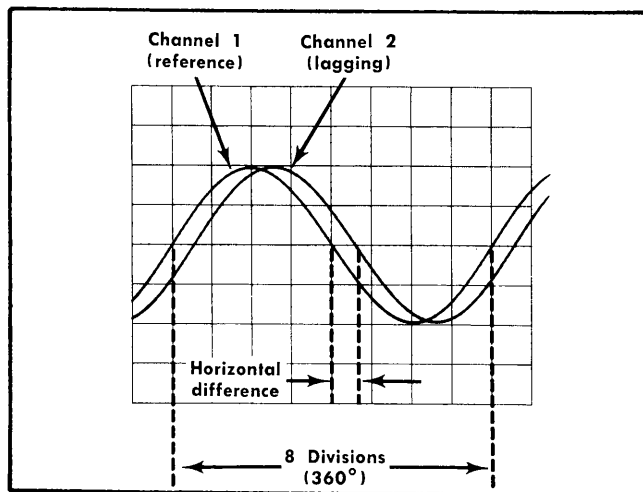
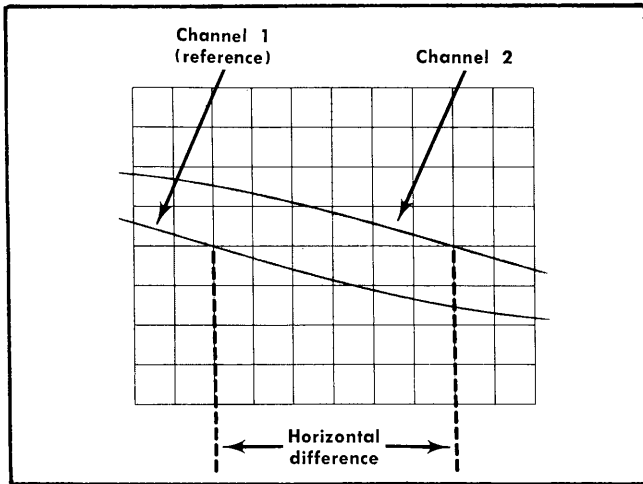

Fig. 2-7. Measuring phase difference.
Fig. 2-8. High-resolution phase-difference measurement with increased sweep rate.
9. Turn the Variable Seconds/Div control until one cycle of the reference signal (Channel 1) occupies exactly eight divisions between the second and tenth vertical lines of the graticule (see Fig. 2-7). Each division of the graticule represents 45° of the cycle (360° ÷ 8 divisions = 45°/division). The sweep rate can be stated in terms of degrees as 45°/division.
EXAMPLE: Assume a horizontal difference of 0.6 division with a sweep rate of 45°/division as shown in Fig. 2-7.
EXAMPLE: If the sweep rate were increased 10 times with the magnifier, the magnified sweep rate would be $45^\circ/\text{division} \div 10 = 4.5^\circ/\text{division}$. Fig. 2-8 shows the same signals as used in Fig. 2-7, but with the SWP MAG button pushed in. With a horizontal difference of six divisions, the phase difference is: